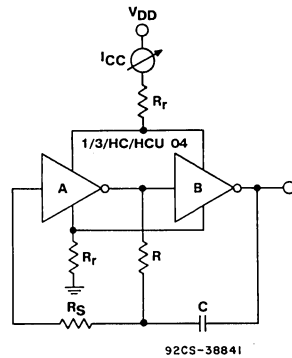
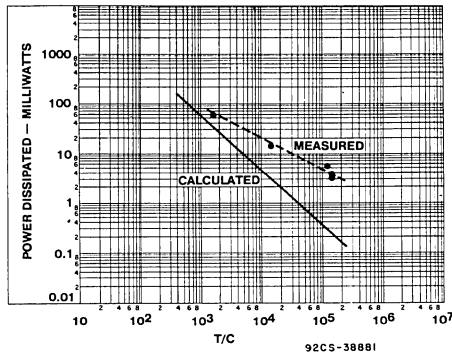

Fig. 9 - Common method of reducing QMOS RC-oscillator power consumption.
Fig. 8 - Power dissipation in oscillator (using an HCT04) as a function of T/C ratio ($V_{CC} = 5.5$ V).
Table I contains parameters, data, and calculations for five operating frequencies. Fig. 8 shows plots of the measured
versus calculated power. Table I and Fig. 8 illustrate two key points concerning RC oscillator power:
Because of the dependence of power on both the frequency and value of C, power is plotted (Fig. 8) as a function of the T/C ratio. Fig. 9 illustrates a common method of reducing QMOS RC-oscillator power consumption. In the circuit, small-valued, current-limiting resistors, R_r , are placed in series with the circuit dc supply voltage, V_{CC} , and with the ground terminals. This arrangement reduces the CMOS flowthrough current during slow switching transitions, when both the PMOS and NMOS transistors conduct transient current from V_{CC} to ground.
The effect of resistor R_r in Fig. 9 is to decrease the output charging current of CMOS inverter (B) into capacitor C, hence the increased charging time of C. The impact of R_r on frequency when large values of resistor R are used is minimal; there is a 2% frequency decrease for HC and a 2.5% decrease for HCU when R is 47 kilohms, C is 1000 pF, and R_r is 1 kilohm. Figs. 10(a) and 10(b) plot power consumption against the value of R_r for the HC04 and HCU04 types, respectively.